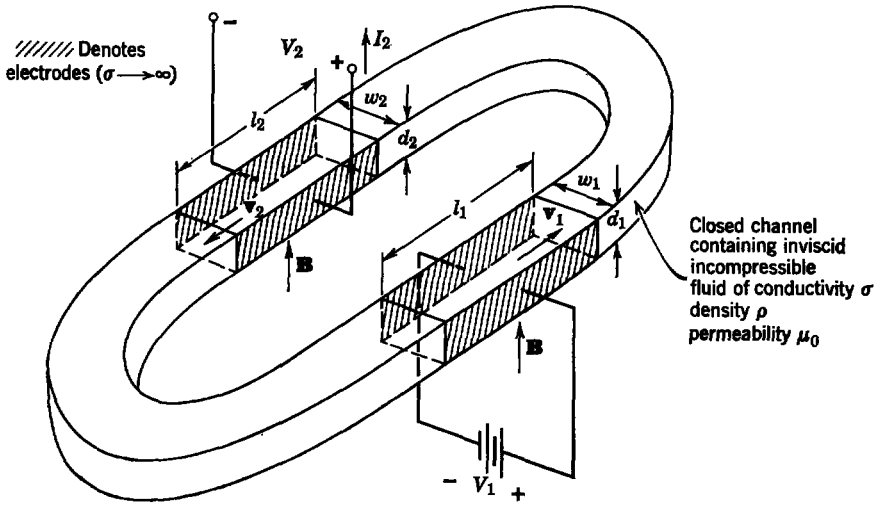

Fig. 12P.20
12.20. A dc transformer is to be made by using a closed channel of incompressible, inviscid fluid of conductivity σ , permeability μ_0 and density ρ , and two MHD conduction machines, as illustrated in Fig. 12P.20. Both machines have the same applied uniform flux density \mathbf{B} , but their dimensions are different, as indicated. Make the usual assumptions of uniform velocity in the machines, neglect the magnetic fields induced by current in the fluid, and neglect end and edge effects and fringing. For steady-state conditions find a relation between V_2 and I_2 in terms of input voltage V_1 , conductivity σ , and the dimensions. Draw the Thevenin equivalent circuit this relation implies.